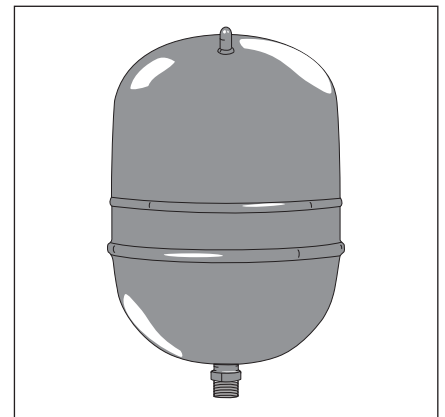

Figure 5 - A Thermal Expansion Tank helps protect the home's plumbing system from pressure spikes.
- Thermal Expansion Tank (Figure 5 on page 9)
Verify that you have a properly sized Thermal Expansion Tank (Figure 5). We recommend installing an expansion tank if your home does not have one. Codes require a properly pressurized, properly sized Thermal Expansion Tank in all homes that have backflow, check or pressure reducing valves (see illustration on inside front cover).